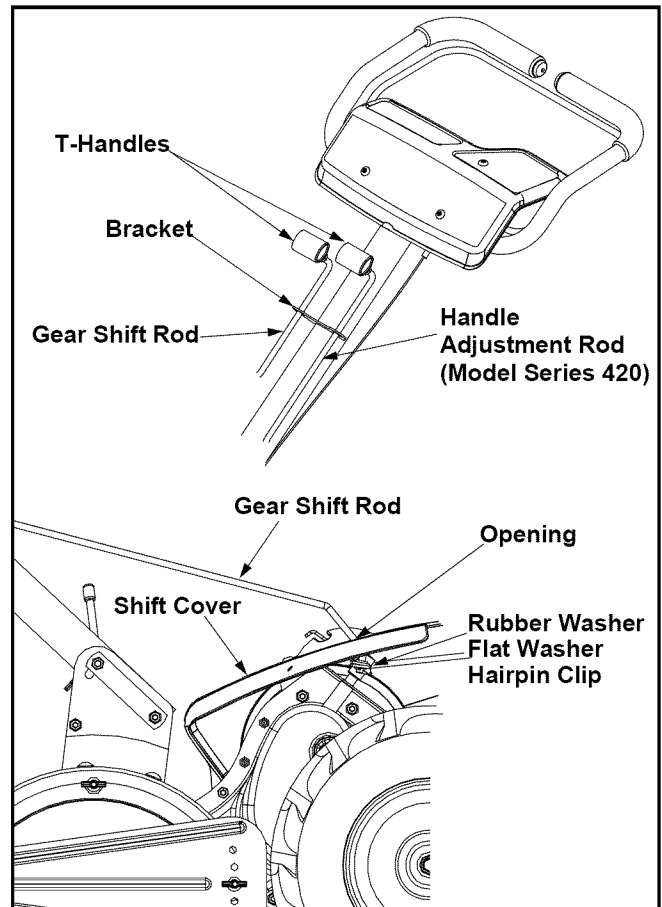

Figure 5
- Remove the T-handle, hairpin clip, flat washer and rubber washer from the end of the gear shift rod. Slide the rod up through the right side of bracket on the front of the handle assembly. See Figure 5.
- Insert the end of the gear shift rod through the opening in the top of the shift cover and into the shift bracket. Secure with rubber washer first, flat washer, and then hairpin clip. See Figure 5.
- Remove the T-handle, flange nut, hairpin clip, and rubber washer from the ends of the handle adjustment rod. Slide the rod up through the left side of bracket on the front of the handle assembly. Refer to Figure 5.